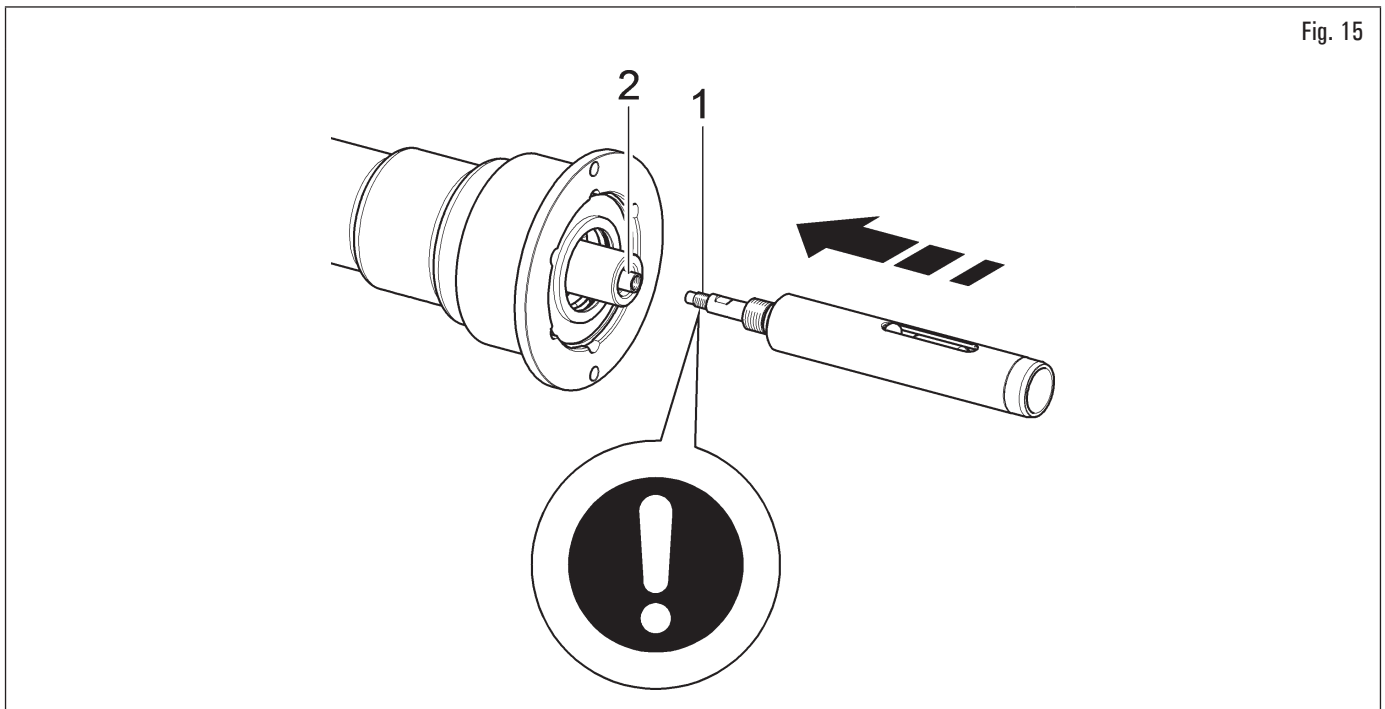
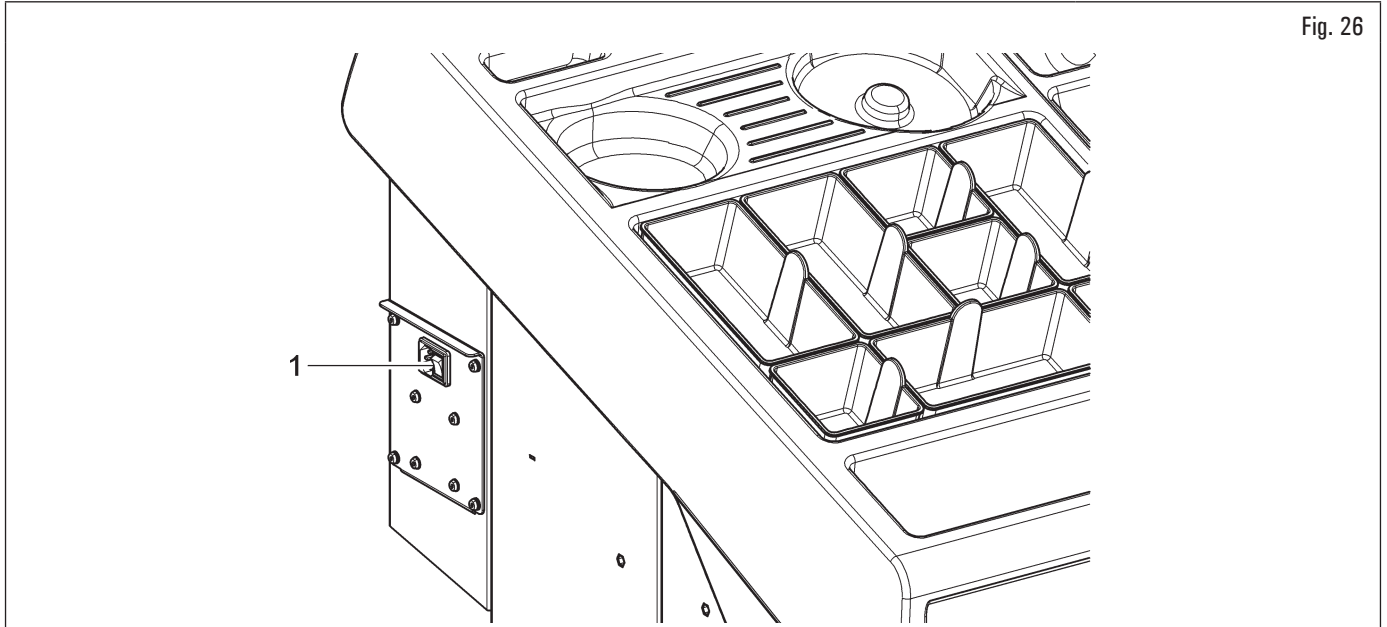

Fig. 15
Fig. 26
2. switch the equipment off by using the main switch (Fig. 26 ref. 1). Couple tyre inner rod (Fig. 15 ref. 1) with flange inner rod (Fig. 15 ref. 2) (see Fig. 15);
For pneumatic shaft kit fitting (Fig. 15 ref. 1) use medium resistance loctite 242 threadlockers or equivalent only on M10 thread and tighten to 30 Nm (22 ft-lbs).
Once the plug/socket connection has been made, turn on the equipment using the main switch (Fig. 26 ref. 1).
Turn the main switch, on the side of the equipment, to "ON" (Fig. 26 ref. 1).
In order to turn off the equipment, simply press the "OFF" main switch (Fig. 26 ref. 1).